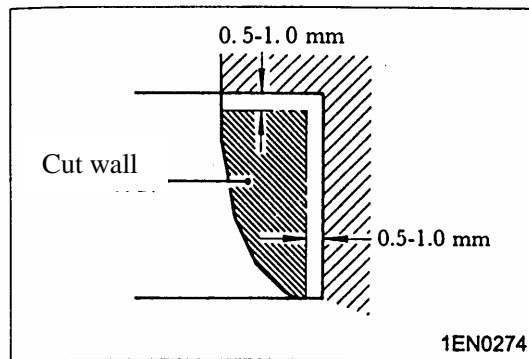

Fig.4-84
- (1) Cut the valve seat to be replaced from the inside to reduce the wall thickness. Then, remove the valve seat, see Fig.4-84.